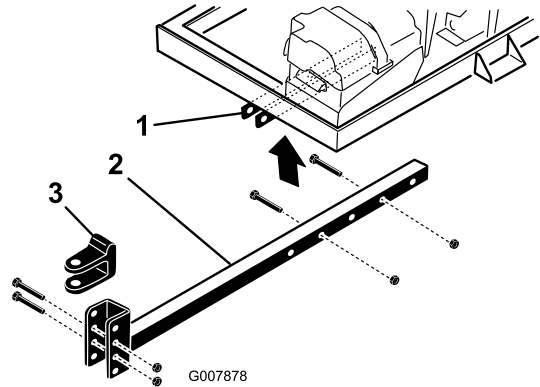

Figure 4
2. Insert the hitch tube into the frame brackets (Figure 4). Secure the tube to the frame with 2 bolts (3/8 x 3 inches) and flange nuts (3/8 inch).
- Remove the bolts and locknuts securing hitch clevis (Figure 4) to hitch tube.
- Remove the bolts and nuts securing the hitch tube to frame brackets (Figure 4).